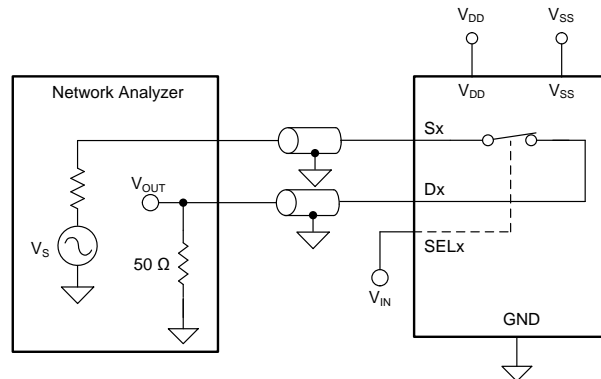

Figure 25. Bandwidth Measurement Setup
Bandwidth is defined as the range of frequencies that are attenuated by < 3 dB when the input is applied to the source pin (Sx) of an on-channel, and the output is measured at the drain pin (D) of the TMUX6121, TMUX6122, and TMUX6123. Figure 25 shows the setup used to measure bandwidth of the switch. Use Equation 4 to compute the attenuation.